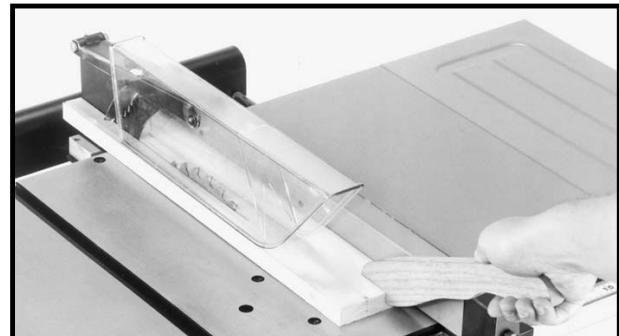

Fig. 49
2. If the ripped work is less than 4 inches wide, a push stick should always be used to complete the feed, as shown in Fig. 49. The push stick can easily be made from scrap material as explained in the section "**CONSTRUCTING A PUSH STICK.**"